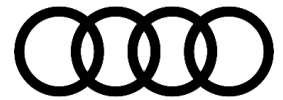

Figure 1. Pressure and temperature sensor markings and build date.
2. Inspect the markings on the sensor to determine if the sensor has been previously replaced with an improved sensor produced after Calendar Week 31, 2021. Figure 1 shows the locations of the markings and their interpretation. In this example, while the sensor is an 'E' index sensor, contains a green dot on the connector housing and a laser marking on the aluminum housing the build date of the sensor is *before* Calendar Week 31, 2021, and would require replacement.